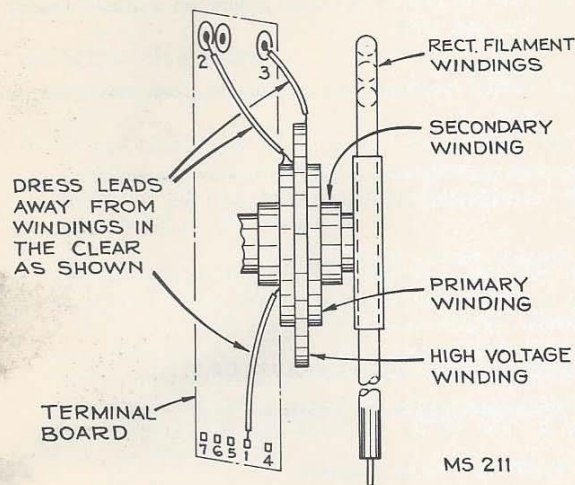

Figure 34—T302 Lead Dress
- (1) Dress spaghetti-covered leads from A and B on discriminator transformer T301 to pin 3 and 5 on V301 tube socket approximately $\frac{3}{16}$ " above chassis.
- (2) Dress video capacitors C157, C164 and C168 up and away from chassis.
- (3) Dress video peaking coils L108, L109, L110, L111, L112, L113 and L114 up and away from chassis.
- (4) Contact between the r-f oscillator frequency adjustment screws and the oscillator coils or channel switch eyelets must be avoided.
- (5) Dress T302 winding leads as shown in Figure 34.